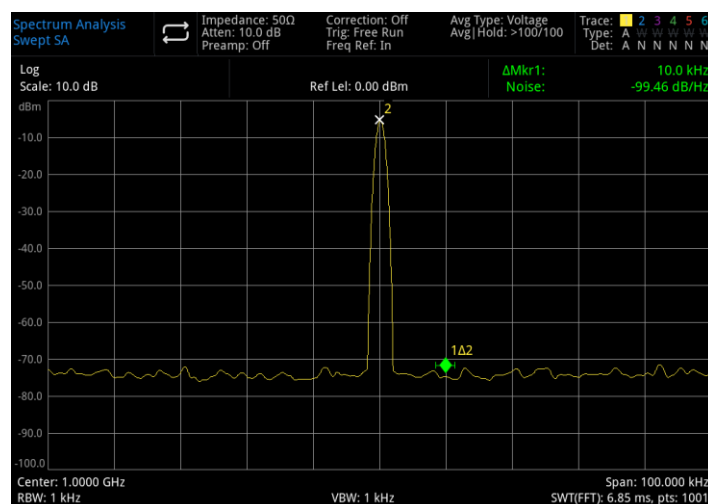

Figure 3-20 Phase Noise
- 7 Open marker function>mark noise, as shown in Figure 3-20: